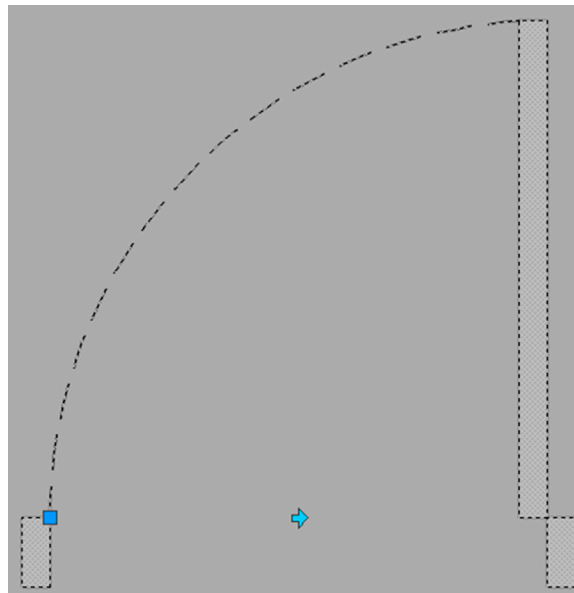

FIGURE 7.18 Flip executed.
Step 4. As a final step, press the Test Block button at the upper left of the Ribbon. This takes you into an intermediate area (still in block edit mode) where you can test out what you have done. In our case here, click on the door and you see a blue arrow pointing to the left at the bottom. Click on that and the door's swing flips around (Fig. 7.18).